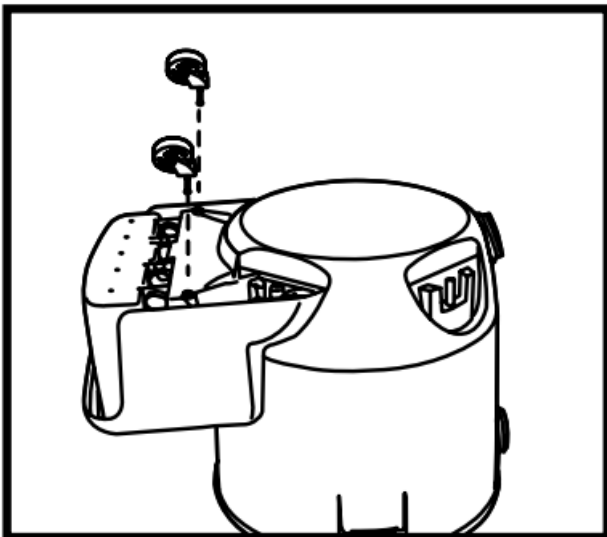

FIGURE 7
6. Take two casters and place a flat washer over the stem of each caster. Install casters into auxiliary caddy by inserting the caster stems into the holes provided. Apply pressure and twisting motion until the casters snap into place. **FIGURE 7**